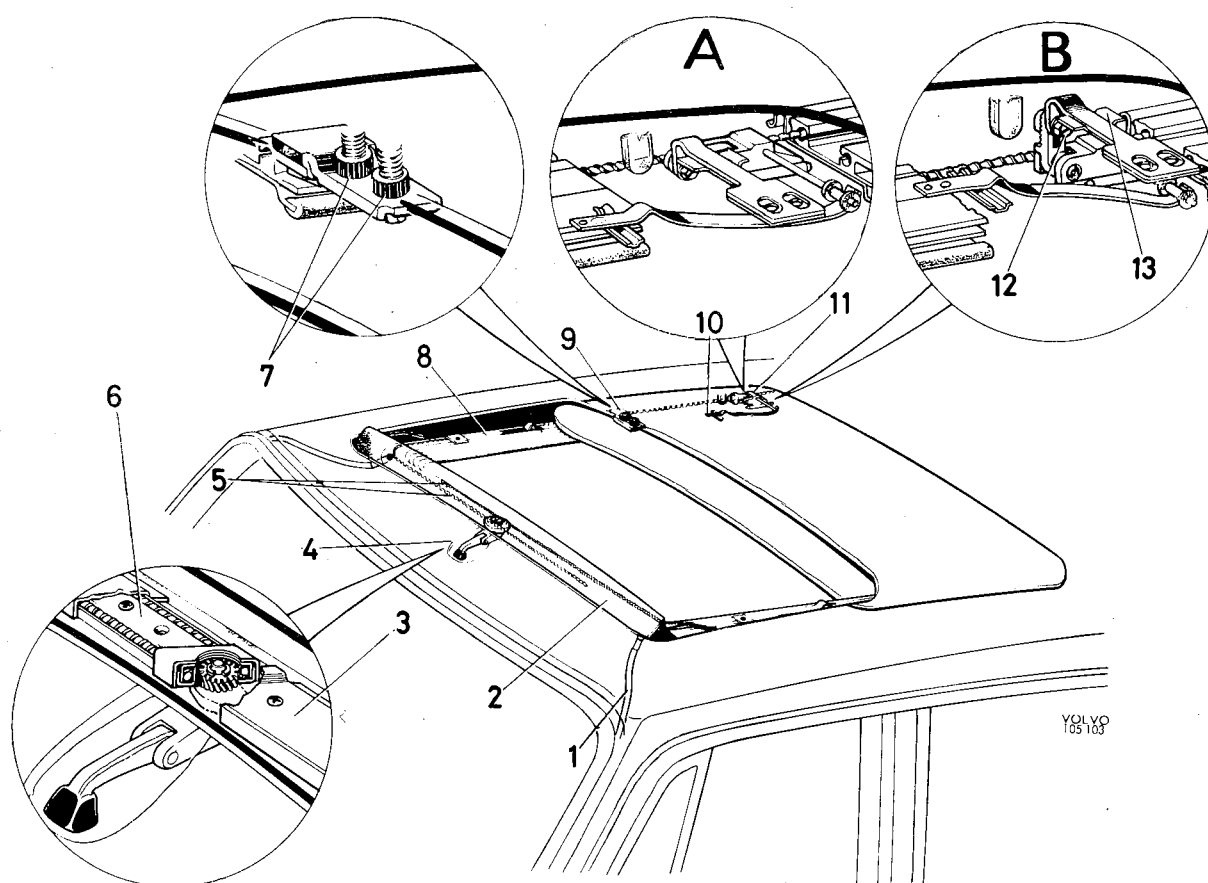

Fig. 8-29. Sun roof
2. Crank the sun roof forwards and slacken the screws at its four attachments (9 and 11, Fig. 8-29). Bend the blade springs (10) to the one side and remove the reinforcing plates (13) at the rear attachments. Lift off the sun roof.
3. Remove the wind deflector (2).
4. Remove the intermediate pieces (8), covering strip (3) and holders above the drive. Release the front guide rails (6) and pull out the cables (5).